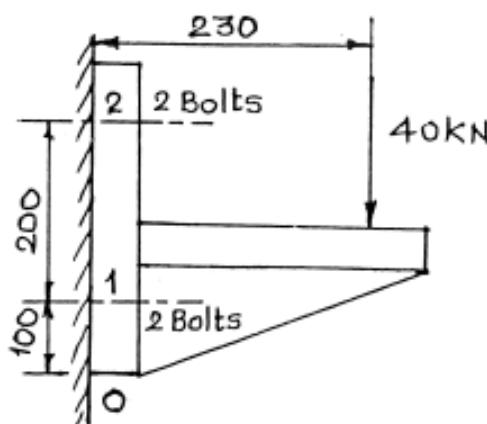

Fig. 2
- b) A bracket is subjected to a force of 40 kN, as shown in Fig. 2. If the permissible tensile strength and the permissible shear strength for the bolts are 50 MPa and 30 MPa respectively. Determine the size of bolts.